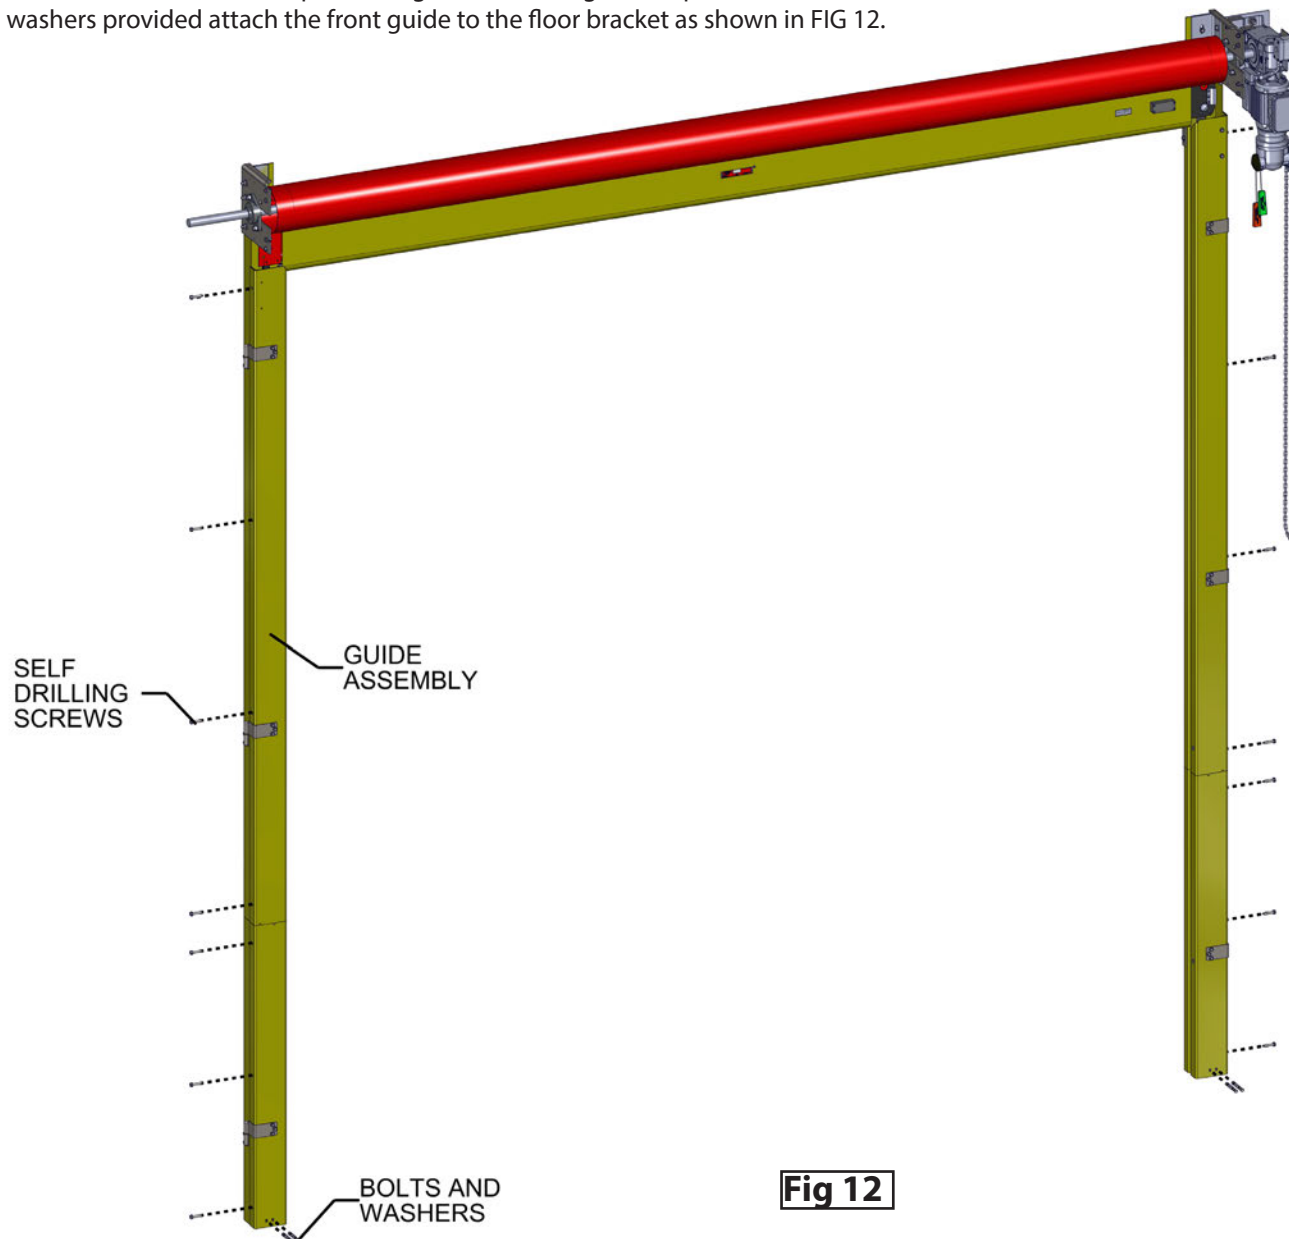

Fig 12
- Close the hinged guide assemblies and bolt in place using the self drilling screws provided as shown in FIG 12.
- Using the bolts and washers provided attach the front guide to the floor bracket as shown in FIG 12.